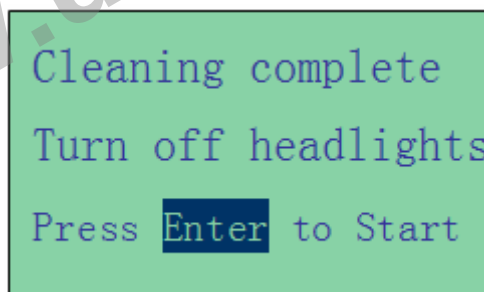

Figure 7
9. Wait until the surface voltage cleaning had completed, the analyzer will advise as follows: (Fig.7) and then press  key.